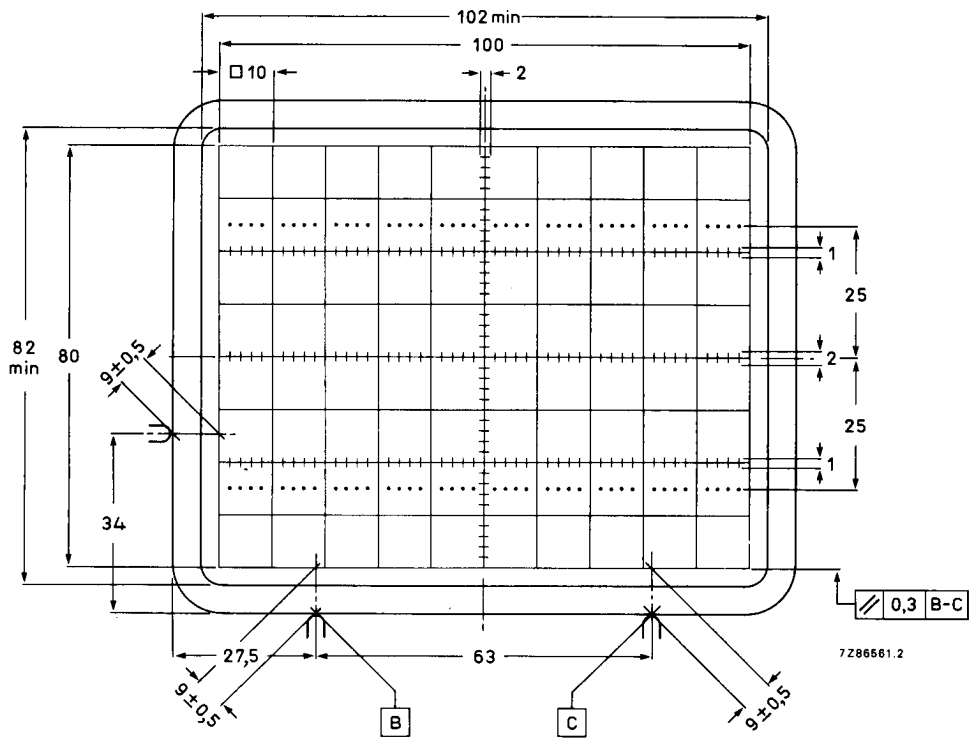

Fig. 5 Front view of tube with internal graticule, type 93. The faceplate reference points are used for aligning the graticule with the faceplate.
Internal graticule	type 93; see Fig. 5
The tube can be mounted in any position. It must not be supported by the socket and not by the base region alone. The reference points on adjoining edges of the faceplate (see Fig. 5) enable the tube to be mounted accurately in the front panel, thus providing optimum alignment of the internal graticule.
4. Reference points on faceplate for graticule alignment (see Fig. 5).